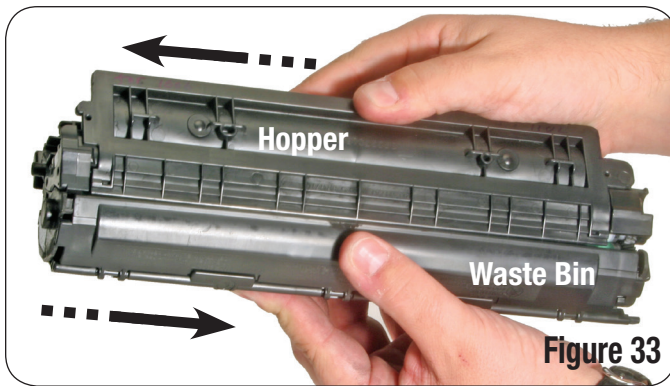

Figure 33
35. Align bosses on the hopper to openings on the waste bin. Carefully slide the toner hopper and waste bin sections together as shown in Figure 33. Verify the springs between the hopper and waste bin are straight.